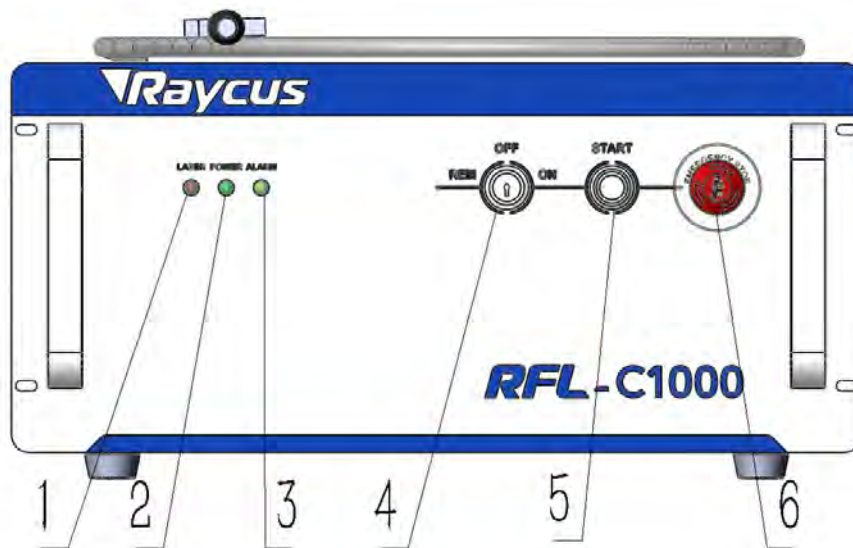

Figure 8 Front Panel View of RFL-C100~RFL-C1000
Figure 8 shows the front panel of RFL-C100~RFL-C1000 (take RFL-C750 for example, other models in the series have the same front panel)
4. **REM/OFF/ON:** Key switch, the power switch of the laser. Insert the key (**Item 6** in Figure 8(9)); either turn the key clockwise to the 'ON' position or counterclockwise to 'REM' position will power on the laser. Then the laser will enter a control mode depending on your previous setup on the 'CTRL-INTERFACE'. You can refer to **4.6 Control Mode** for more details.